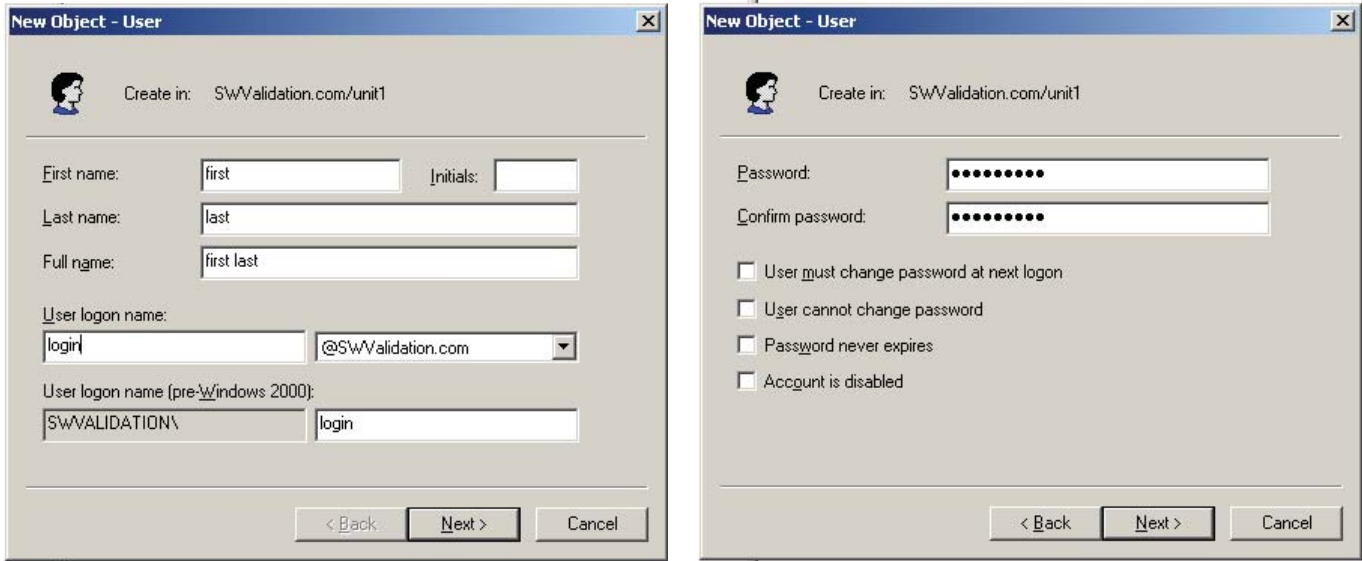

Figure 4.4.7d User details screens
3. Similarly, create a new Group, then a new User, entering the user name and login details (figure 4.4.7d). In the password page, ensure that the various tick boxes are enabled/disabled as required.